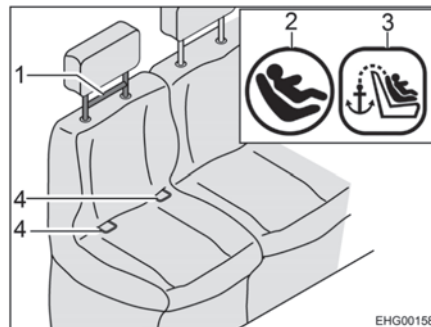
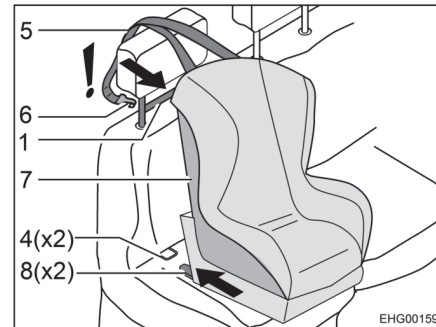

Fig. 11 Seat with ISOFIX
Fig. 12 Fixing with ISOFIX
ISOFIX-suitable vehicle seats are provided with the ISOFIX symbol (Fig. 11,2). The position of the top tether is marked with a symbol (Fig. 11,3), too.
- Let the connectors (Fig. 12,8) snap into the retaining clips (Fig. 11,4). While doing this, a distinctive click must be heard.
- With a strong jerk, check if the child seat (Fig. 12,7) is firmly connected.
- Route top tether strap (Fig. 12,5) over the headrest of the vehicle seat.
- Hook fixing hook (Fig. 12,6) in at the top tether (Fig. 11,1).